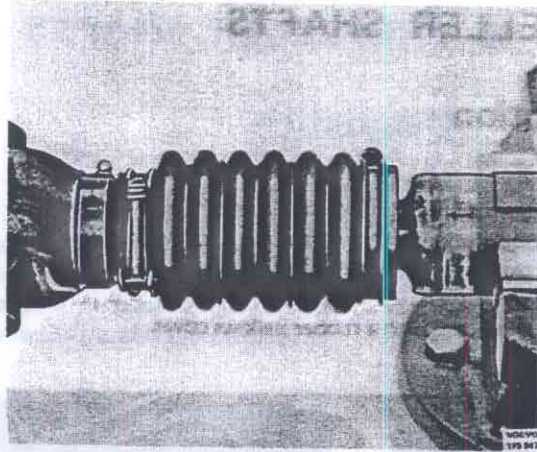

Fig. 45-4. Removing the axle
6. Check to make sure that the slide joint is free from dirt. Push the tube into the slide joint and note the line-up marks when doing so, see Fig. 45-4.